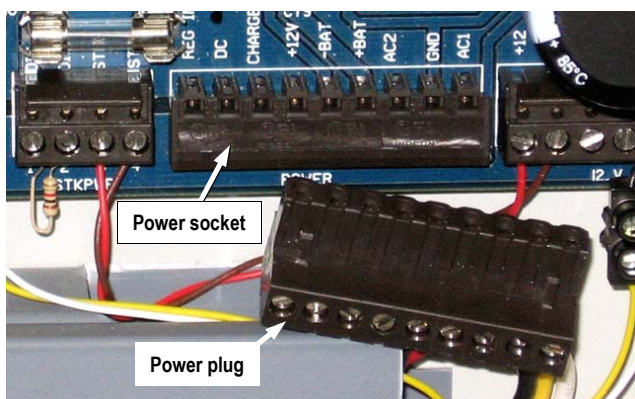

Fig. 2: Push POWER plug connector downward until removed
3. Inside the panel housing, remove power from the main control panel PCB by pushing the POWER plug connector (located on the lower right of the PCB) downward until the connector is completely separated from the PCB. Do not disconnect the battery wires. See Fig. 2, below (left).